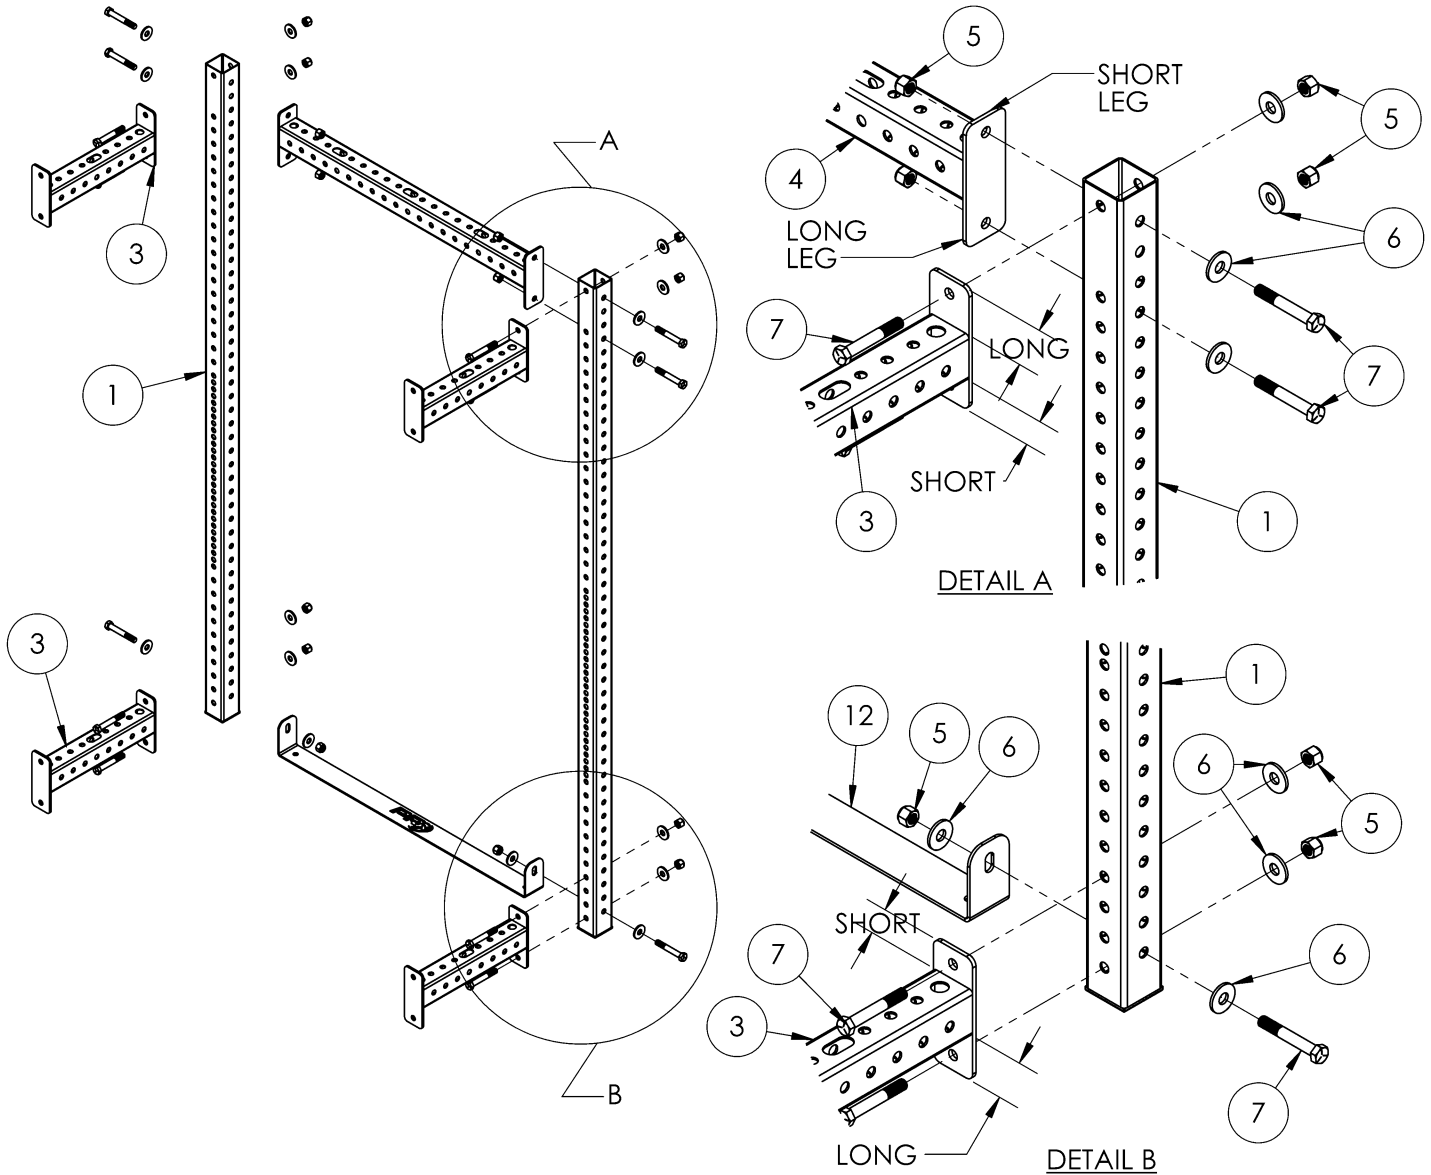

Figure 1
1. Attach Short Crossmembers (3) and Long Crossmember (4) to the top of the rear Uprights (1) with the hardware shown. **Figure 1, Detail A**
*NOTE 1: Make sure Uprights (1) only have numbers on one side. Numbers and PRx logo at the top of the uprights are shown facing the rear of the rack. Customers can choose to rotate the uprights 180 degrees, so the logo and numbers are facing the front. **Figure 1, Detail A***
*NOTE 2: Short Crossmembers at the top of the Uprights should be oriented with the long leg of the end plates facing upward and the short leg facing down. This will be the opposite for the Long Crossmember (4) across the top/rear of the rack. This is to account for the offset holes in the uprights and keep the tubes of the crossmembers at the same height. **Figure 1, Detail A***
2. Attach Short Crossmembers (2) to the front/bottom of the Uprights (1) with hardware shown.
*NOTE: The Bottom Crossmembers are oriented opposite the top, with the long leg of the end plates facing downward and the short leg facing upward. **Figure 1, Detail B***
3. Attach the Floor Spreader Plate (12) between the bottoms of the Uprights (1) with hardware shown. **Figure 1, Detail B**